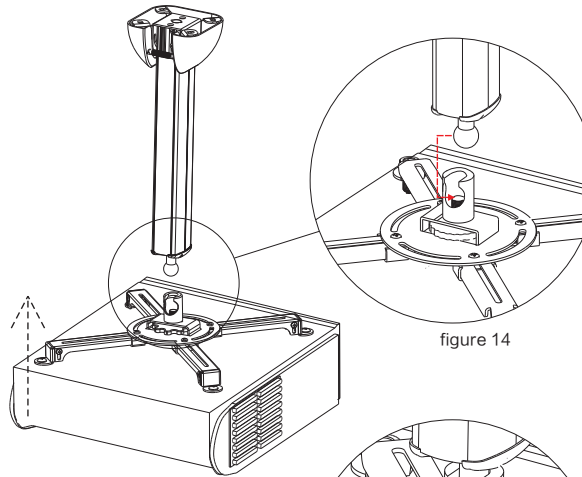

figure 14
- ④ (Figure14)With the projector installed to the installation base: From the side, insert the joint to the installation base